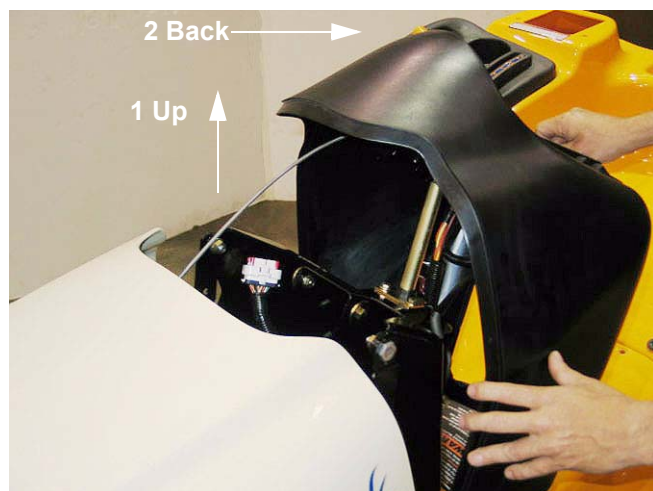

Figure 1.20
1.20. Carefully lift the dash panel and remove it from the tractor. Confirm that the wiring harness and control cables do not snag as they pull out with the dash panel. See Figure 1.20.